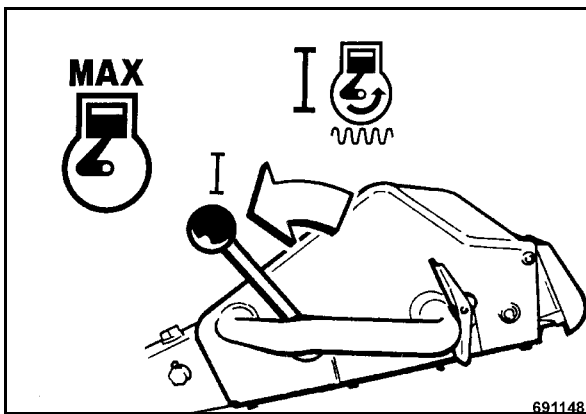

Fig. 18
- Set the throttle lever (Fig. 18) to position "MAX".